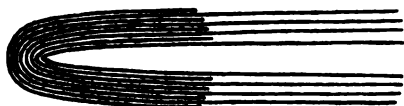

FIG. 73.
**Scrap-Books** Scrap-books, into which autograph letters, sketches, or other papers can be pasted, may be made as follows:—Enough paper of good quality is folded up to the size desired, and pieces of the same paper, of the same height, and about two inches wide, are folded down the centre and inserted between the backs of the larger sheets, as shown at fig. 73. It is best not to insert these smaller pieces in the centre of the section, as they would be troublesome in sewing. If, after sewing, the book is filled up with waste paper laid between the leaves, it will make it manageable while being forwarded.